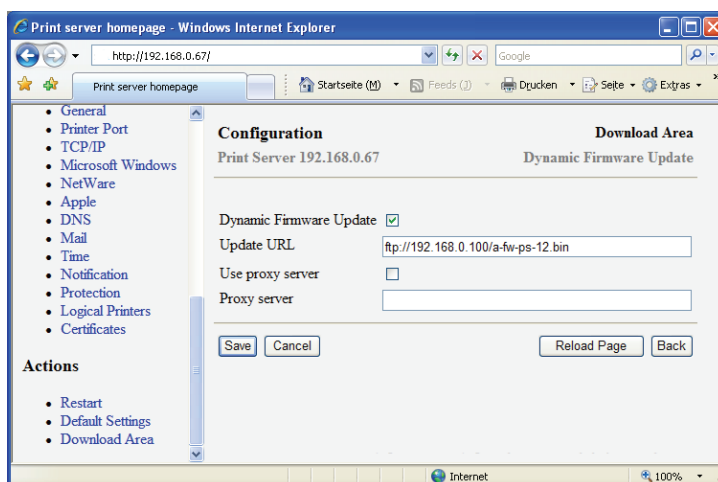

Fig. 24: PRINTSERVER Homepage - Dynamic Update
3. *Select **Actions – Firmware Update** from the menu bar. The **Dynamic Update** dialog appears; see Fig. 24 ⇒  161.*